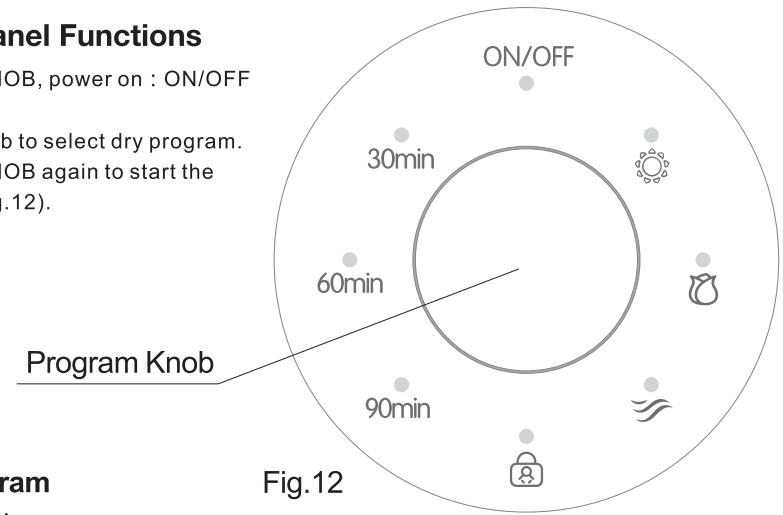

Fig.12
- Press the KNOB again to start the machine (Fig.12).